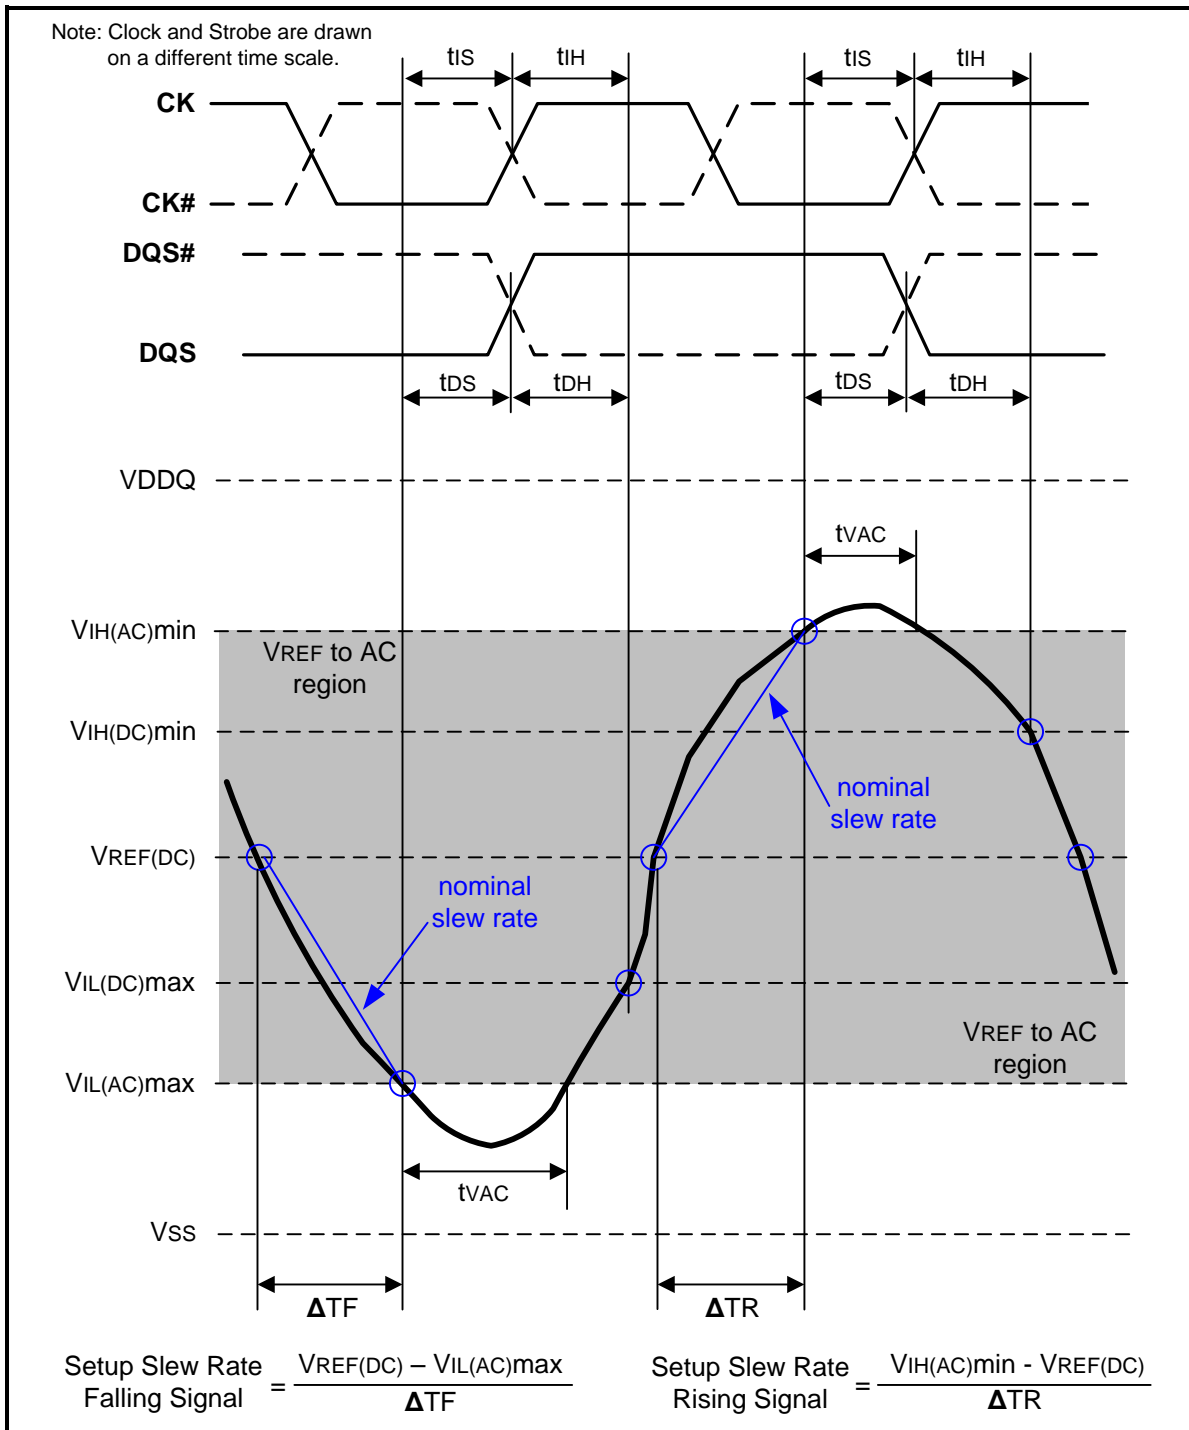
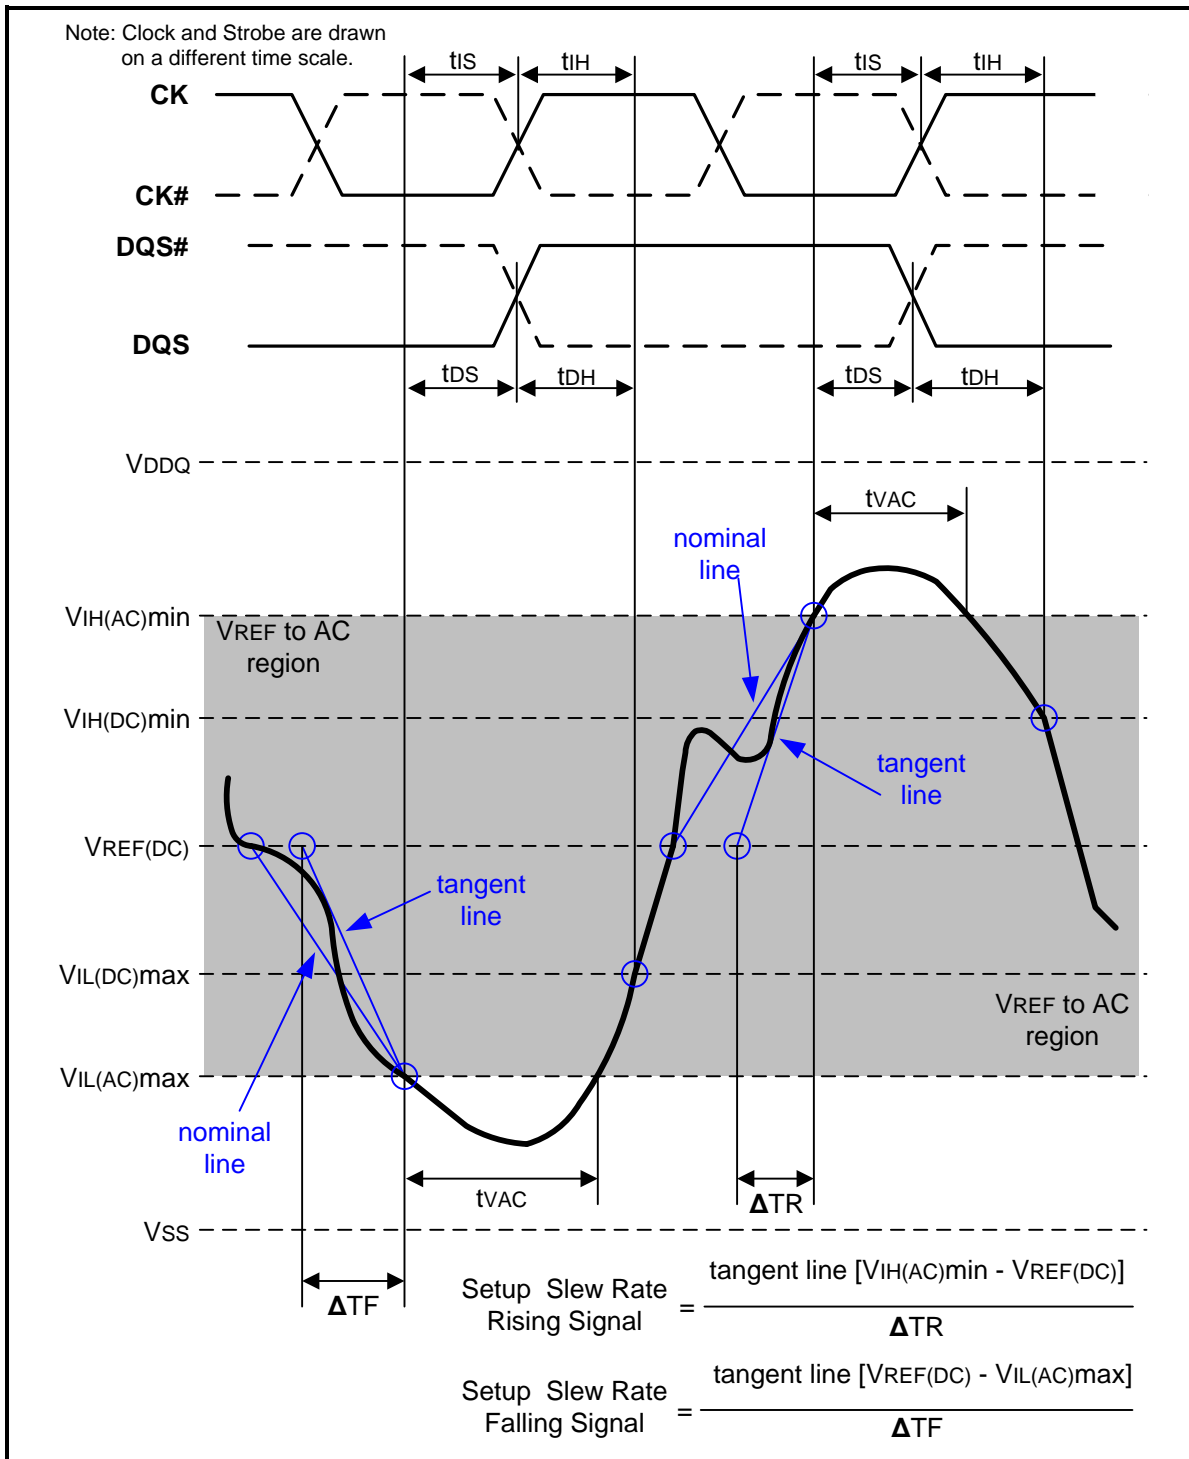

Figure 107 – Illustration of nominal slew rate and tvAC for setup time tDS (for DQ with respect to strobe) and tIS (for ADD/CMD with respect to clock)
Figure 109 – Illustration of tangent line for setup time t_{DS} (for DQ with respect to strobe) and t_{IS} (for ADD/CMD with respect to clock)
Setup (t_{IS}) nominal slew rate for a rising signal is defined as the slew rate between the last crossing of $V_{REF(DC)}$ and the first crossing of $V_{IH(AC)min}$. Setup (t_{IS}) nominal slew rate for a falling signal is defined as the slew rate between the last crossing of $V_{REF(DC)}$ and the first crossing of $V_{IL(AC)max}$. If the actual signal is always earlier than the nominal slew rate line between shaded 'VREF(DC) to AC region', use nominal slew rate for derating value (see Figure 107). If the actual signal is later than the nominal slew rate line anywhere between shaded 'VREF(DC) to AC region', the slew rate of a tangent line to the actual signal from the AC level to $V_{REF(DC)}$ level is used for derating value (see Figure 109).
Setup (tDS) nominal slew rate for a rising signal is defined as the slew rate between the last crossing of VREF(DC) and the first crossing of VIH(AC)min. Setup (tDS) nominal slew rate for a falling signal is defined as the slew rate between the last crossing of VREF(DC) and the first crossing of VIL(AC)max (see Figure 107). If the actual signal is always earlier than the nominal slew rate line between shaded 'VREF(DC) to AC region', use nominal slew rate for derating value. If the actual signal is later than the nominal slew rate line anywhere between shaded 'VREF(DC) to AC region', the slew rate of a tangent line to the actual signal from the AC level to VREF(DC) level is used for derating value (see Figure 109).